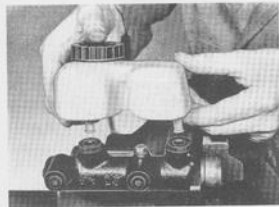
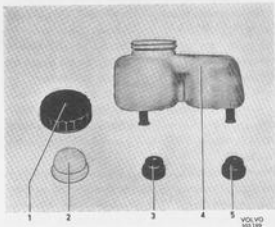

Fig. 5-43. Removing container
Fig. 5-44. Container parts
2. Place both hands under the container and pull it up from the rubber seals, see Fig. 5-43. Remove the filler cap and strainer from the container and also the rubber seals from the cylinder see Fig. 5-44.
6. Fit rubber seals (3 and 5, Fig. 5-44). Check that the vent-hole (2, Fig. 5-60) in the cap is clear and fit the strainer (2) and filler cap in position. Fit the container, compare Fig. 5-43.